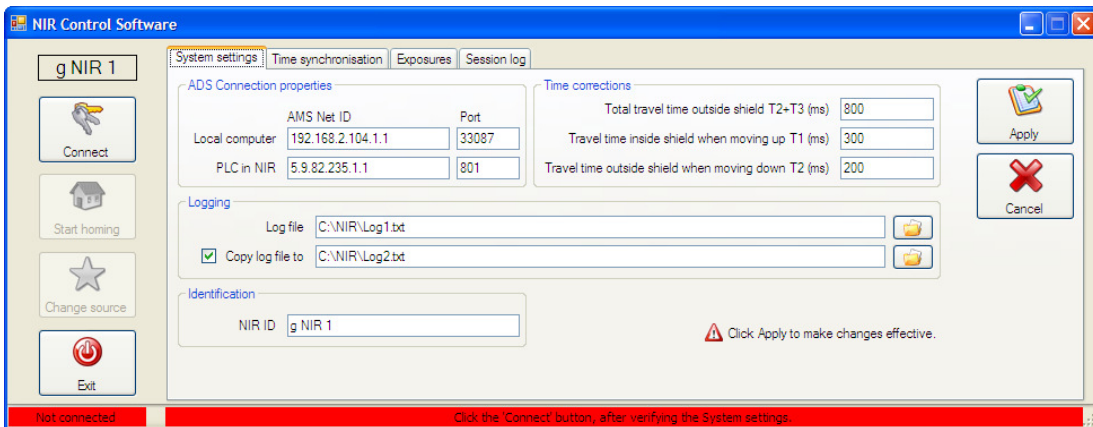

Figure 23: Starting the NIR control software.
4. Start the NIR Control Software, select the proper configuration file and verify that the System settings are properly set. Check that the "ADS Connection properties" correspond to the "Network identification tag" on the device. Refer to heading 7 for the procedure to change the system settings. The window looks like Figure 23.